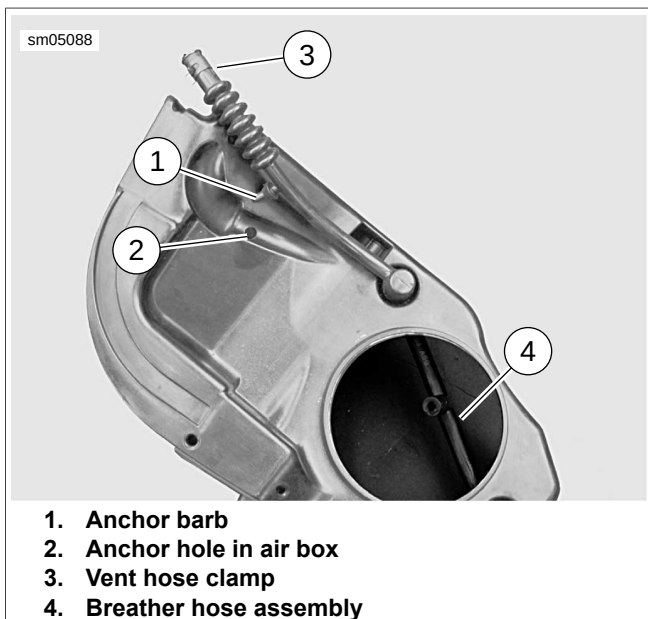
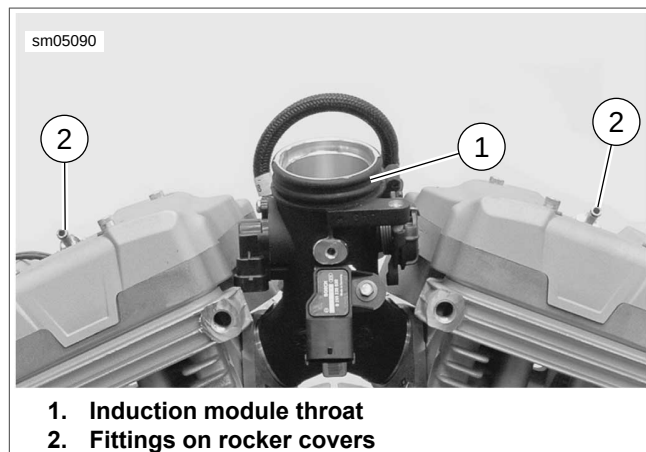

Figure 4-4. Front Crankcase Vent Hose
Figure 4-5. Air Box Connections
See Figure 4-4. Check that the breather hose assembly (4) inside the air box does not interfere with the active air solenoid flapper.
2. Snap the anchor barb (1) of the front crankcase vent hose in the hole (2) in the air box bottom.
6. See Figure 4-5. Hold the air box close. Connect crankcase vent hoses to the fittings (2) on the front and rear rocker covers.